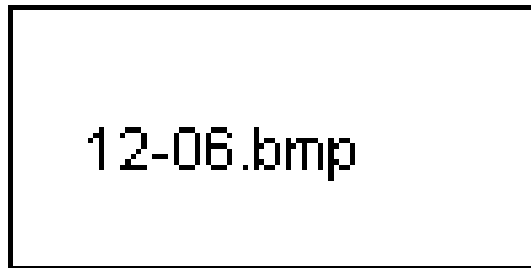

Figure 12-6 Inserting the memory module
7. Insert the memory module, connectors first, into the computer's connectors. Note the notch at the corner of the module. This notch should be on the right as you insert the connectors. See Figure 12-6.